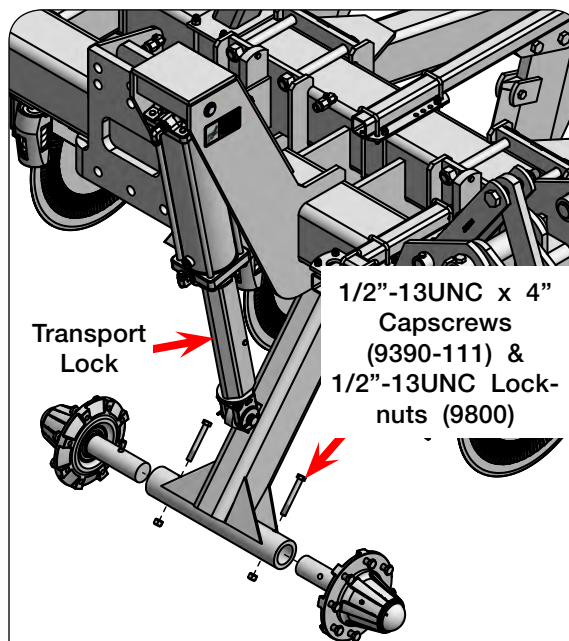

FIG. 2-9
1. Remove the 1/2"-13UNC x 4" capscrews (9390-111) and 1/2"-13UNC locknuts (9800) (FIG. 2-9).
2. Insert the hub and spindle assemblies (JAAM2783) into the axle weldments. (FIG. 2-9)
4. Install the 1/2"-13UNC x 4" capscrews (9390-111) and 1/2"-13UNC locknuts (9800). (FIG. 2-9)